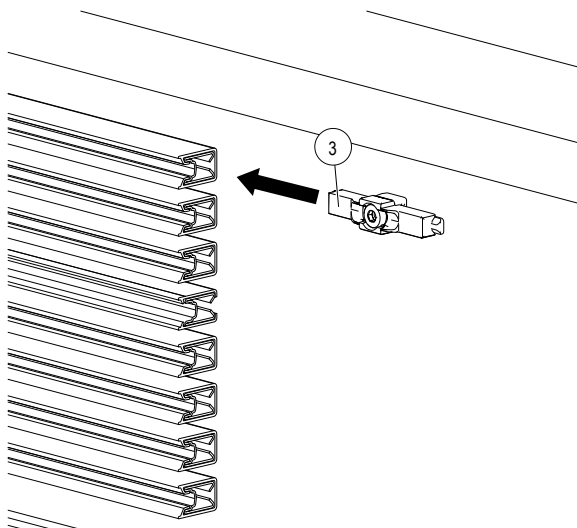
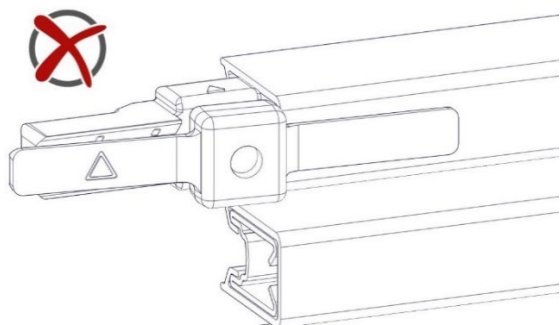
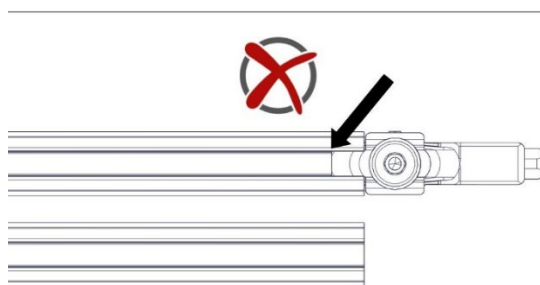
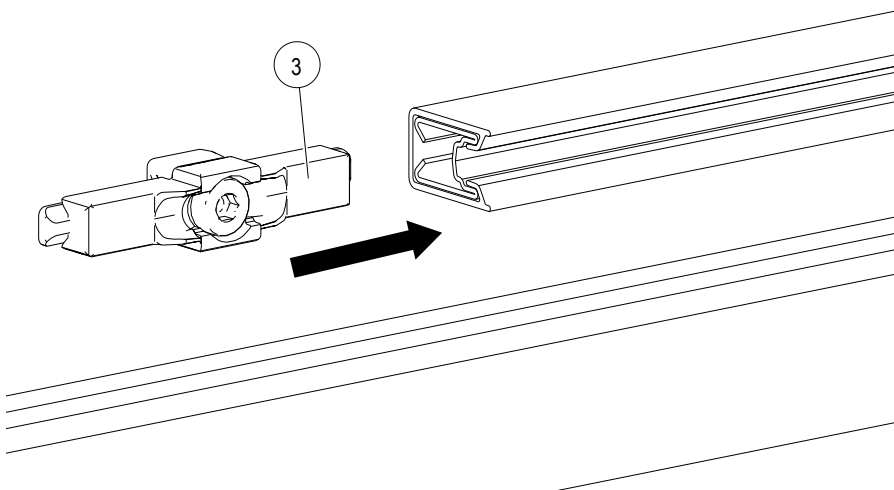

Fig. 74: Push the clamping unit of the connector (Pos. 3) completely into the conductor bar
Fig. 75: Clamping unit slips over the insulating profile
Fig. 76: Conductor bar has shifted
Fig. 86: Slide clamping unit of the connector (Pos. 3) into each conductor rail pole
→ Push the clamping unit of the connector (Pos. 3) completely into the conductor bar of each conductor rail pole (see Fig. 74). Ensure that the clamping unit is fully seated in the conductor bar. The clamping unit must not slip over the insulating profile (see Fig. 75) and the conductor rail must not shift backward (see Fig. 76).
- Slide the clamping unit of the connector (Pos. 3) completely into each conductor rail pole of the next conductor rail (see Fig. 86). Ensure that the clamping unit is fully seated in the conductor bar. The clamping unit must not slip over the insulating profile (see Fig. 75) and the conductor rail must not shift backward (see Fig. 76).